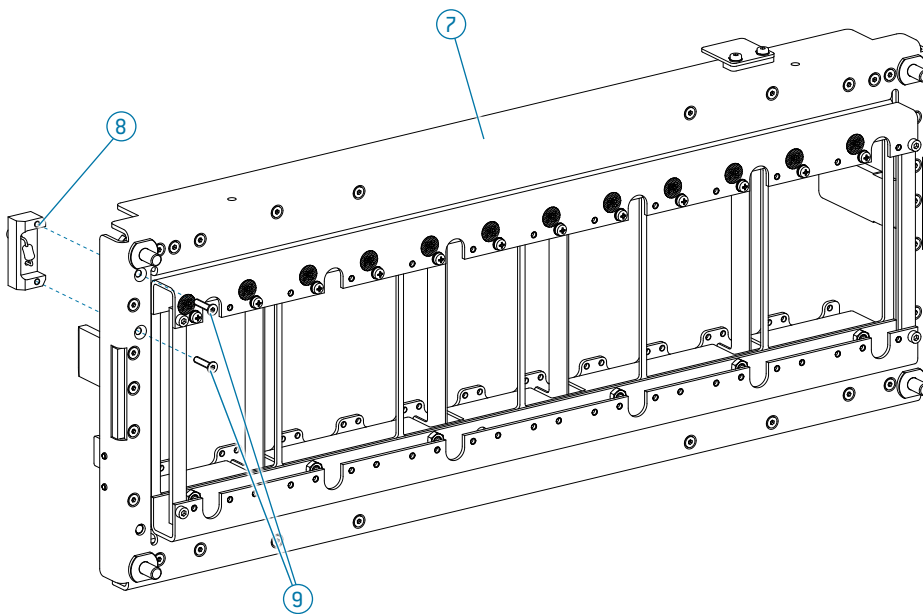

Fig. 142
- ▶ Solder your selected resistor and cable to the resistor coding (8).
- ▶ The resistor coding (8) can be connected to the adapter (7) at the position shown in Fig. 142.